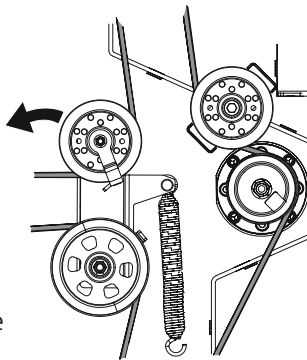

Figure 52
- Pull the right side of the PTO belt rearward and place the narrow V-side of the PTO belt into the PTO pulley. See Figure 52.